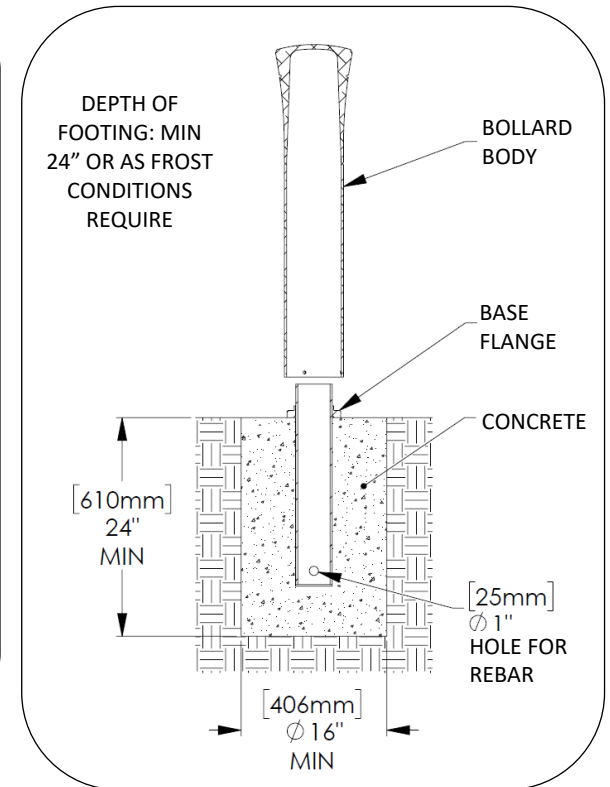

FIG. 2 – EMBEDDED FOOTING DETAIL
2. Set embedded tube in position. Brace tube and plumb before pouring concrete. Bottom of base flange should be flush with top of concrete. Place a section of rebar (not included) through hole in bottom of embedded tube, see Fig. 2.